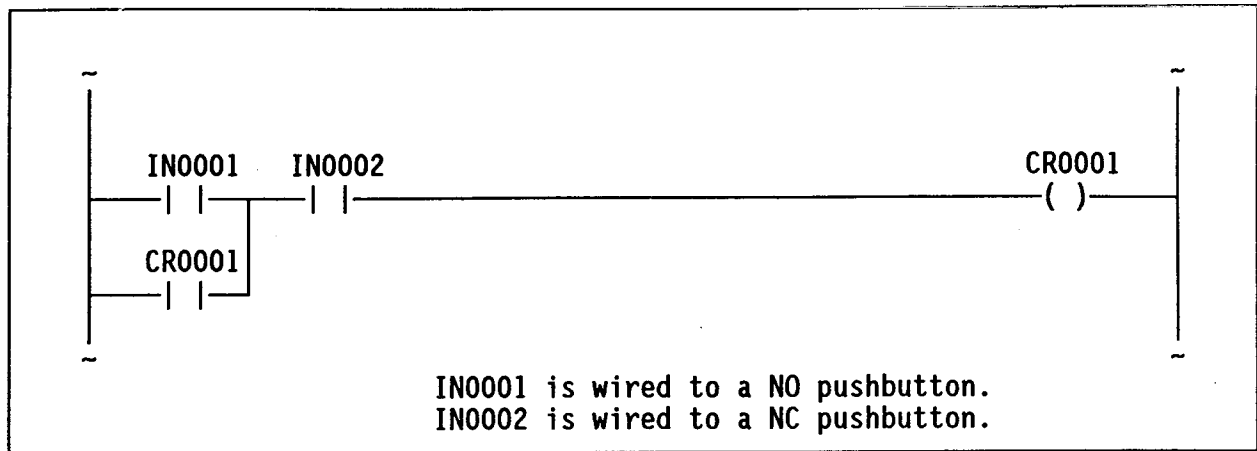

**Figure 1. Control Relay (CR)**
Control Relay (CR) coils control contacts and output circuits. Each coil controls all contacts with the same reference number as the coil. Output coils can control output circuits. Logic coils are for internal logic and control contacts. The ranges for the reference numbers for these coils depend on the model of programmable controller being used as shown in Table 1. CR function symbology is shown in Figure 1.